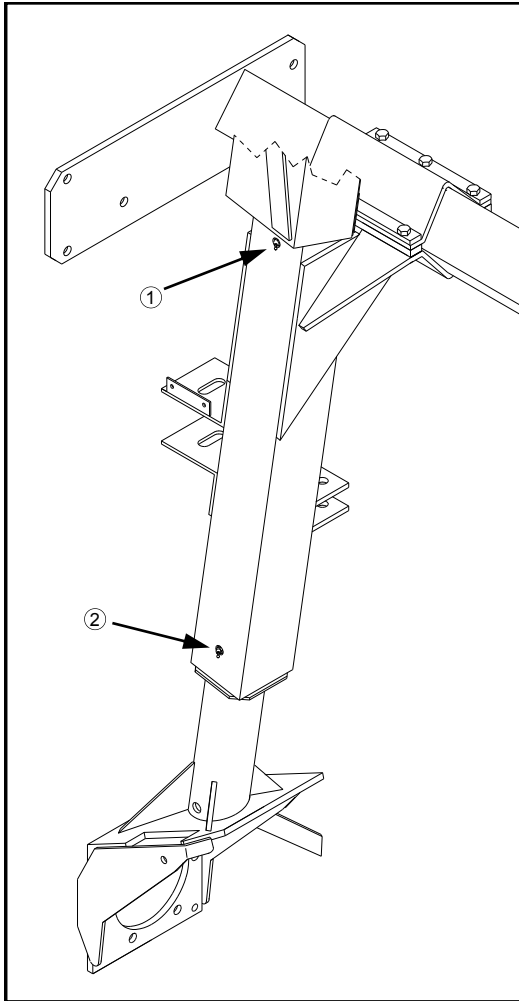

FIG 7.34
Hagie 204 leg assemblies are constructed with upper and lower nylon bearings for suspension telescoping between the inner and outer leg weldments. These bearings must be lubricated to avoid bearing failure and ensure optimal ride quality. There are grease zerks located on the sides of the leg assemblies, one for the upper bearing (fig. 7.34, item 1) and one for the lower bearing (fig. 7.34, item 2). Greasing both bearings on both front legs daily is very important.